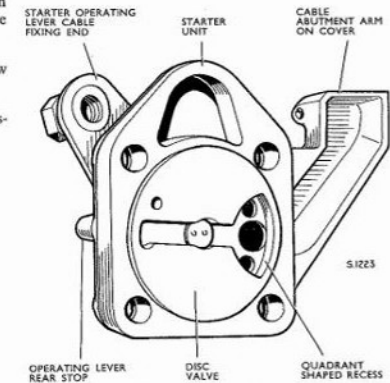

Fig. C.23. The starter unit, showing the correct re-assembly position of the disc valve in relation to the starter operating lever
3. When locating the starter operating lever on to the flats of the disc valve spindle, ensure that the quadrant shaped recess in the starter disc valve is positioned furthest away from the cable fixing on the operating lever (see Fig. C.23).